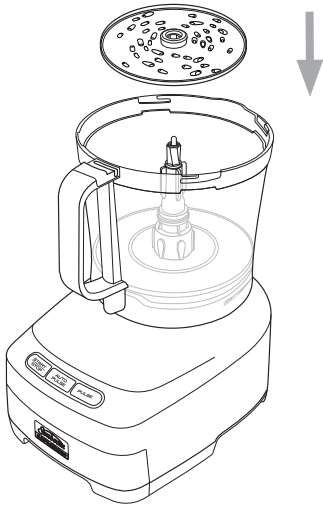

Fig 6
3. Fit the disc over the spindle and press firmly into place, see figure 6.